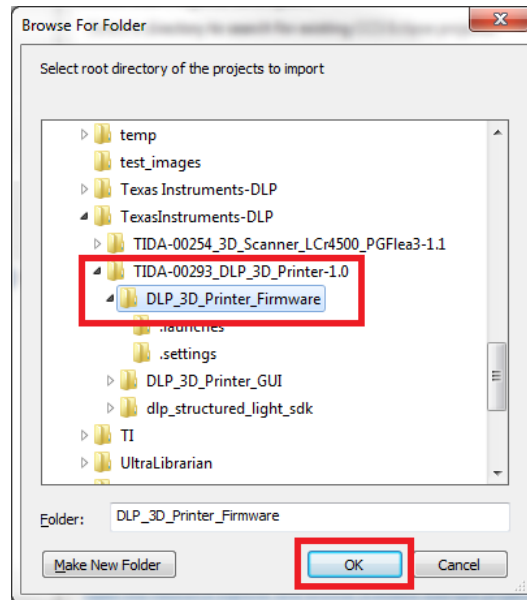

Figure 3-4. DLP 3D Printer Firmware Project Path Selection
7. Select the folder "DLP_3D_Printer_Firmware" located in the TIDA-00293 Software installation path, as shown in Figure 3-4, then click the **OK** button.